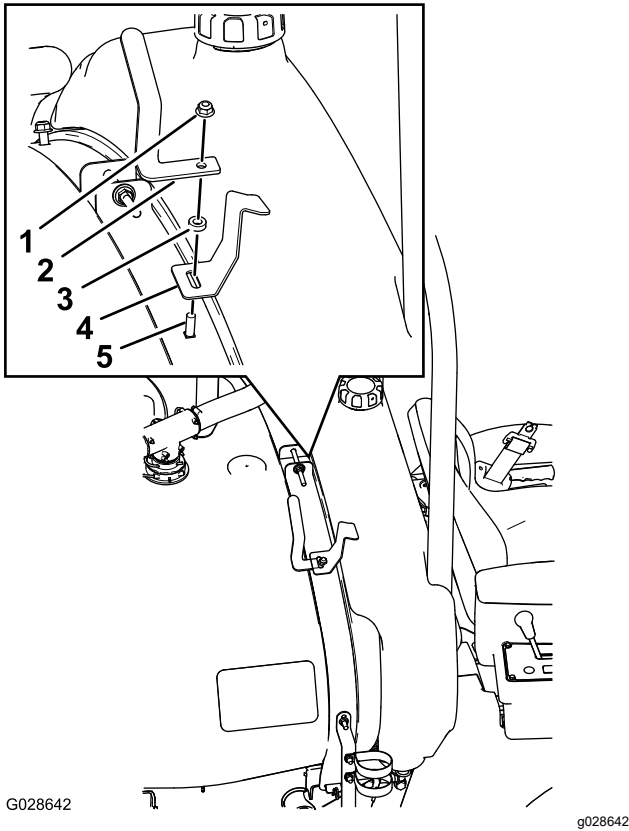

Figure 15
7. Align the hose mount, spacer (3/8 x 1/4 inch), and right tank bracket onto the carriage bolt (3/8 x 1 inch) at the upper-inboard hole of the right-front strap. (Figure 15).
8. Secure the hose mount, spacer, and tank bracket to the carriage bolt and strap (Figure 15) with a flanged locknut (3/8 inch).